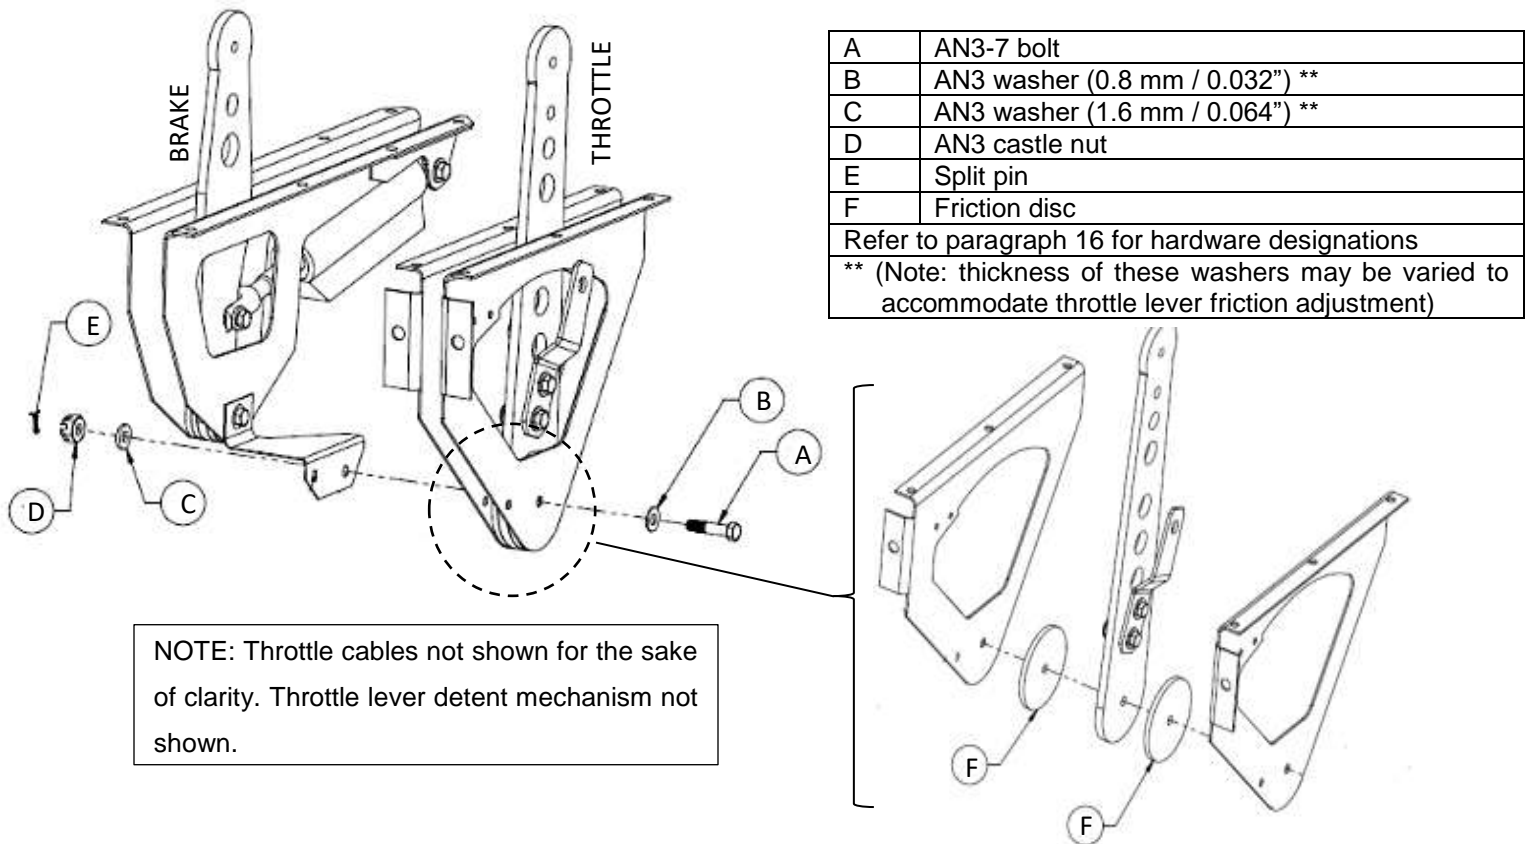

Figure 46: Throttle lever friction disc installation.
Each carburettor throttle control lever is attached to the throttle lever (in cabin) by a separate Bowden cable. Friction on the throttle lever (in cabin) is effected by two friction discs (refer to Figure 46).
4. Adjust castle nut and thickness of washers to attain required friction (refer to Figure 46).